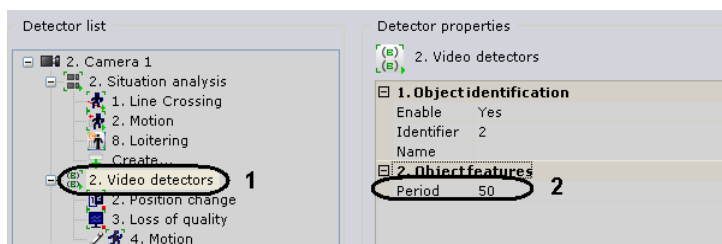

Fig. 6.5—14 Setting the general parameters of video detectors
2. In the **Period** field (see Fig. 6.5—14, 2), enter the time in milliseconds after which the next video image frame will be processed. The value should be in the range [0, 65535]. If the value is 0, each frame of the video image is processed.